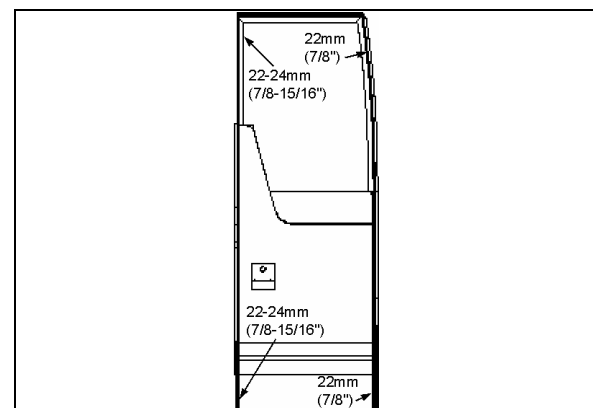

FIGURE 23: SEAL COMPRESSION ADJUSTMENT
2. From the outside of vehicle, insert a straight edge in the gap along the door outside perimeter. Measure the distance between the door frame and the door outside surface at the door four corners (refer to figure 23).